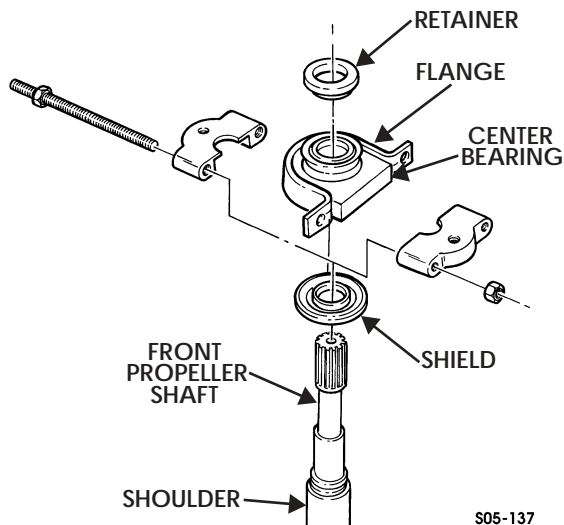

Figure 5-191: Center Bearing
5. Install bearing puller between center bearing and shield (Figure 5-191).
2. Inspect drive shaft, front propeller shaft, slip yoke, and universal yoke for cracks or dents (Figure 5-191).
1. Install shield on front propeller shaft (Figure 5-191).